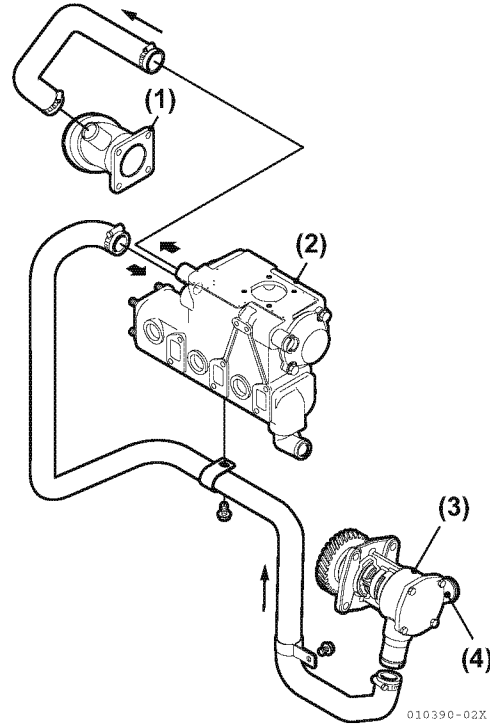

Figure 5-176
- For 3JH5E, install the seawater pipes with the hose clips (**Figure 5-176**).